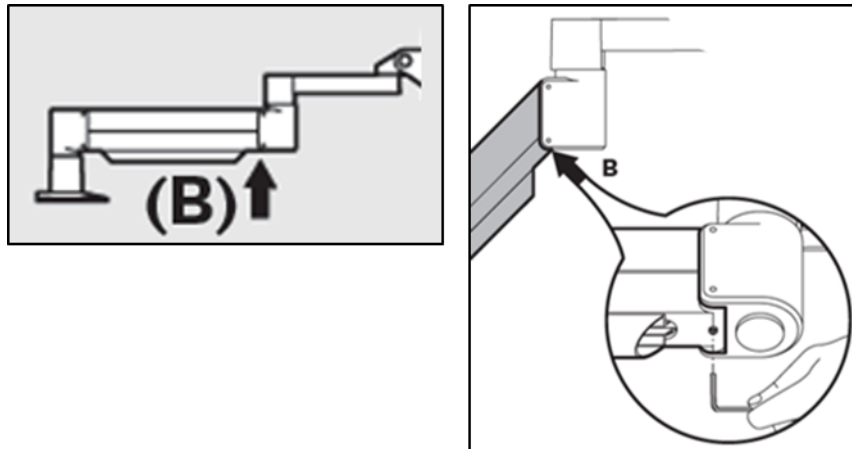

Figure 4-6. Loosen Counterbalance Set Screw B
- Reposition the arm horizontally. Loosen the upper **Counterbalance Set Screw B** by turning the screw at least a ½ turn. Use a 3/32 Allen Wrench. See Figure 4-6.
- Position the arm horizontally and tighten **Counterbalance Set Screw B** until contact is made, then tighten $\frac{1}{2}$ to $\frac{3}{4}$ revolutions. See Figure 4-6.